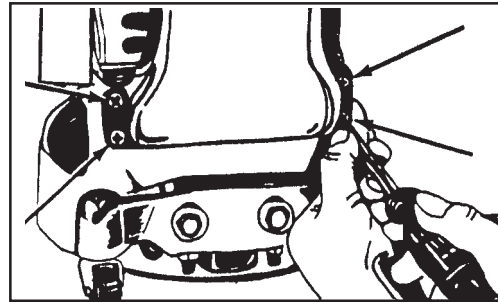

Figure 5
1. Remove the four screws that hold the exhaust pipe to the housing. See figure 5.